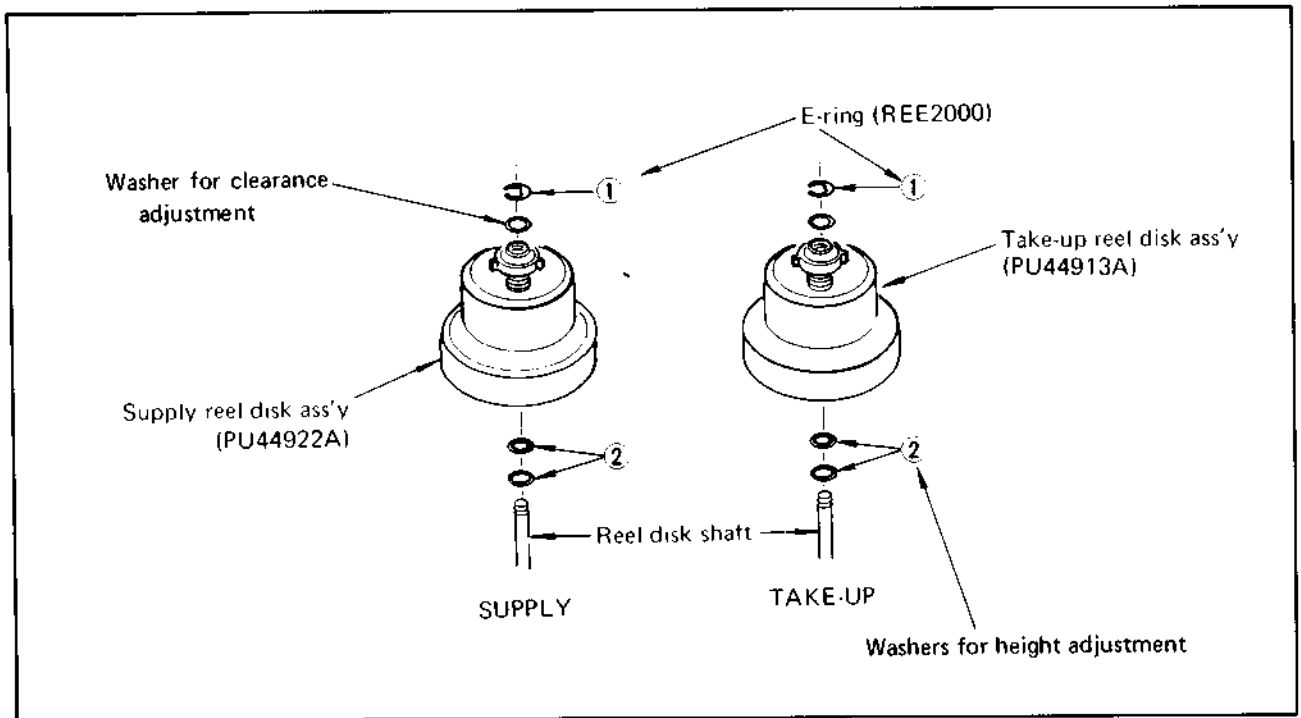

Fig. 5-7 Replacement of reel disk
2. Remove the E-ring 1 from the end of the reel disk shaft as shown in Fig. 5-7.